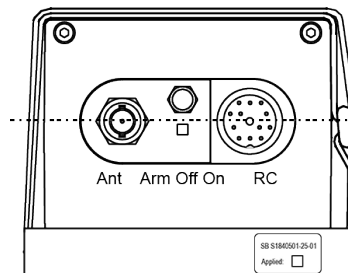

Figure 6: Inspection Control Label on Mounting Bracket - Example
2. Check the S/N of the KIT MOUNTING BRACKET COMPACT against the list in Annex 4: the S/N is visible on the inside of the Mounting Bracket as shown on Figure 6.